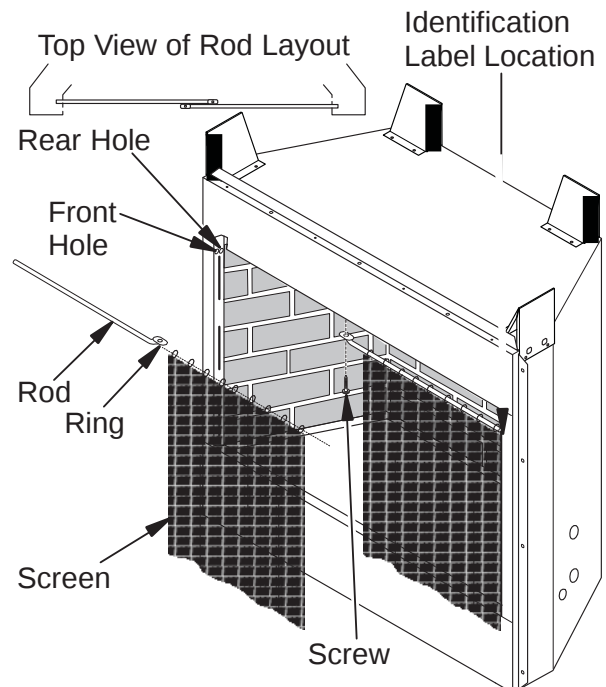

Figure 6 - Installing Fireplace Screen
2. Insert first rod into rear hole in left side of fireplace. Fasten rod to rear hole near center of fireplace using #10 x 3/8 inch Phillips screw provided (see Figure 6).